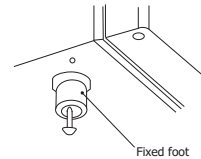

Fig 5
- Unscrew the fixed foot and refit it to the hole in the opposite corner of the base of the housing (Figure 5).